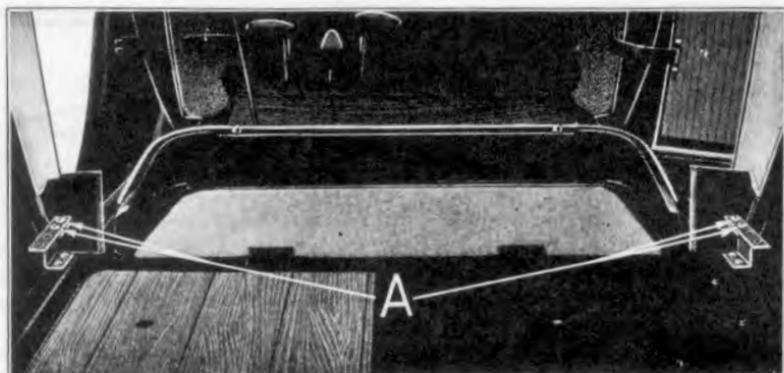

Fig. 574
- 1279 A simple method of moving back the seat in Coupes equipped with the former style bracket is to first remove the seat bar as described in Par. 1265. Then bolt a small steel plate to each of the two brackets as shown in Fig. 574. This plate serves as an extension to the bracket and permits moving back the seat 2" in the same manner as is done with the present design bracket. Details